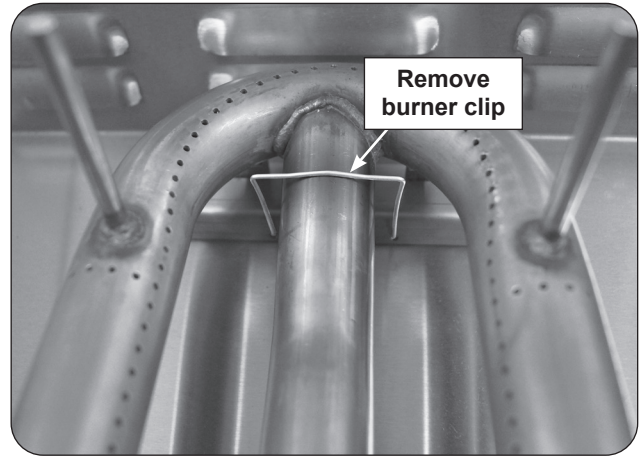

Fig. 35-1 Main burner removal
3. Locate the burner clip (located over the rear center tube of the burner) and slightly pinch and remove the clip from the burner support. See Fig. 35-1.